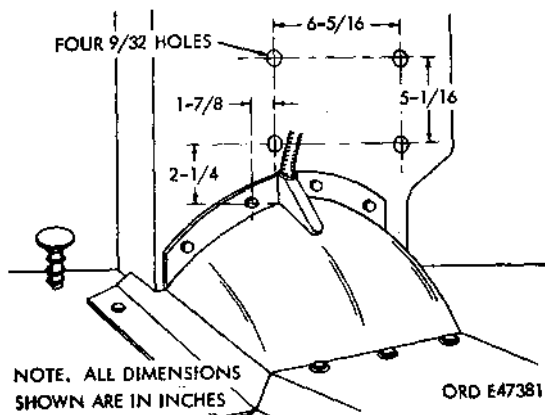

Figure 592. Location of heat diverter mounting holes
- (1) Using the dimensions shown in figure 592, drill four 9/32-inch holes in the firewall.